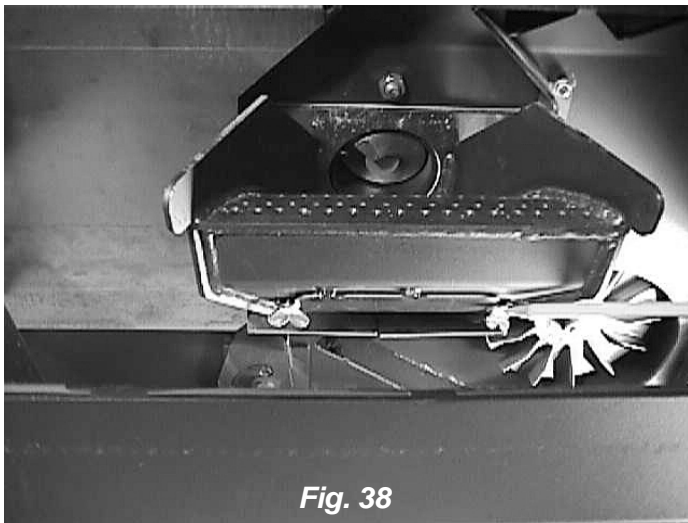

Fig. 38
1. Scrape the top holed surface and sides of the burn pot.(Fig 38) It is not necessary to completely remove all material from the burn pot. The excess will be pushed out during the next use.
2. Loosen the (2) wing thumb screws on the lower front angle of the burn pot. (Fig. 38)